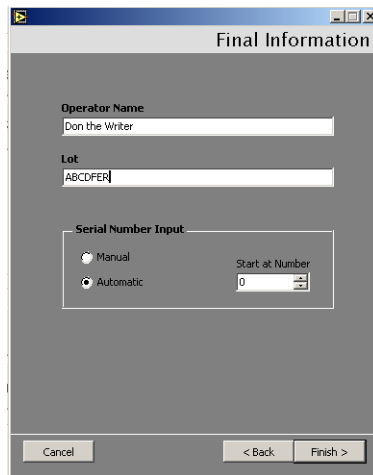

Figure 2-25 Final Information
17. Click **Next** and Figure 2-25 appears.